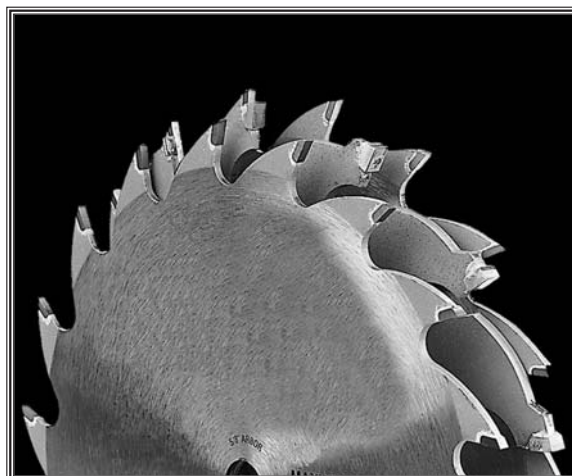

Figure 49. Dado blade.
- **Figure 49** shows a stack dado blade. Dado blades come in three different types: stack dadoes, wobble dadoes, and V-dadoes. Dado blades allow the operator to make non-through cuts of specific widths. Dado blades are primarily designed for making dado and rabbet cuts. The drawback to these types of blades is their high cost.